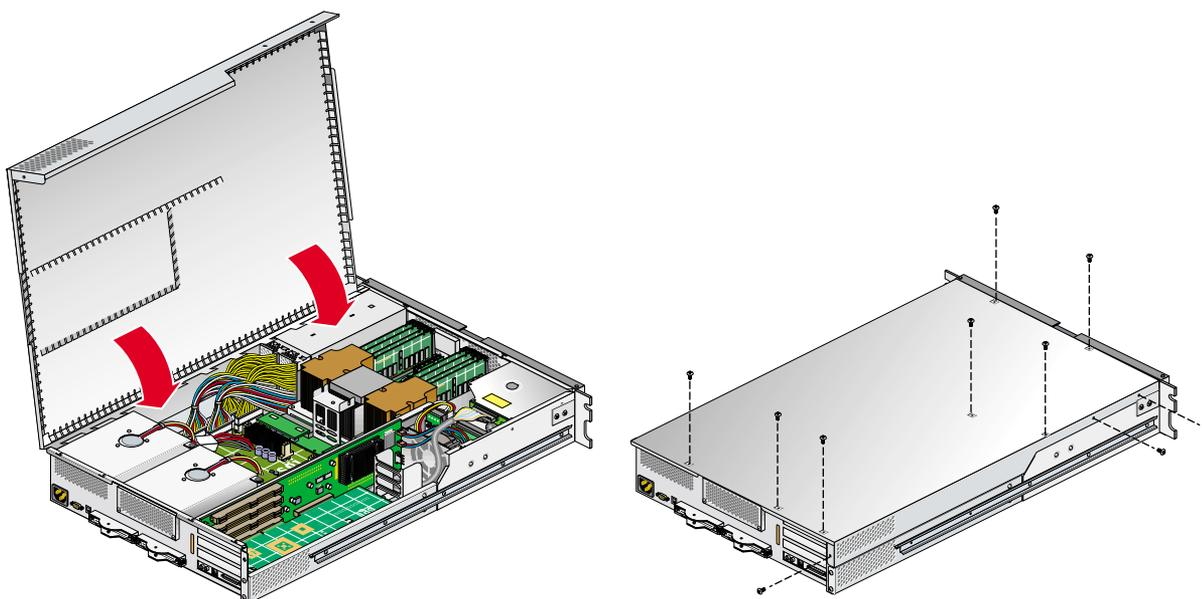

Figure 7-17 Close and Screw Down Cover
14. Close the hinged cover on the system and screw in the ten Phillips screws to secure the cover, as shown in Figure 7-17.